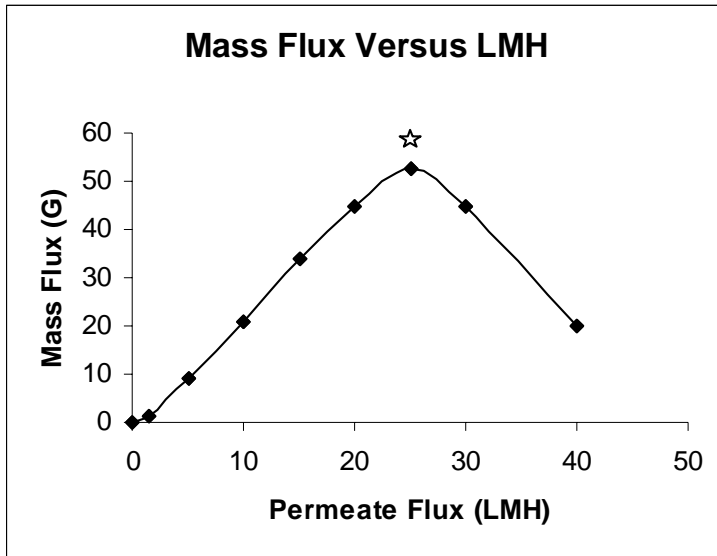

Figure 16. An Example of a Mass Flux versus LMH Curve
14. Graph mass flux (total grams), **G**, on the y-axis and process flux, **LMH**, on the x-axis. An example of a Mass Flux Versus LMH curve is shown in Figure 16. The highest point on the curve, indicated by the star, is where the process is optimized for mass flux. In order to maximize the mass flux for your process, it is important to evaluate protein concentration and passage, as is shown in the mass flux equation.